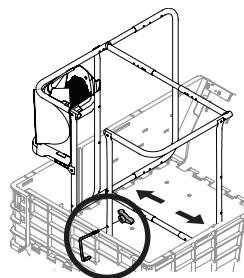

Figure 12
- Adjust frame as necessary to fit width of cart by depressing spring buttons on adjuster tubes to adjust the width and length of the frame, making sure the spring buttons snap into place. See Figure 12.
- Use hook assembly to secure frame to the cart by inserting the threaded arm of the hook assembly through the left front side of the frame, adjust the capped end of the hook assembly to rest against the outside wall of the cart and secure with one wing knob, as shown in Figure 12.